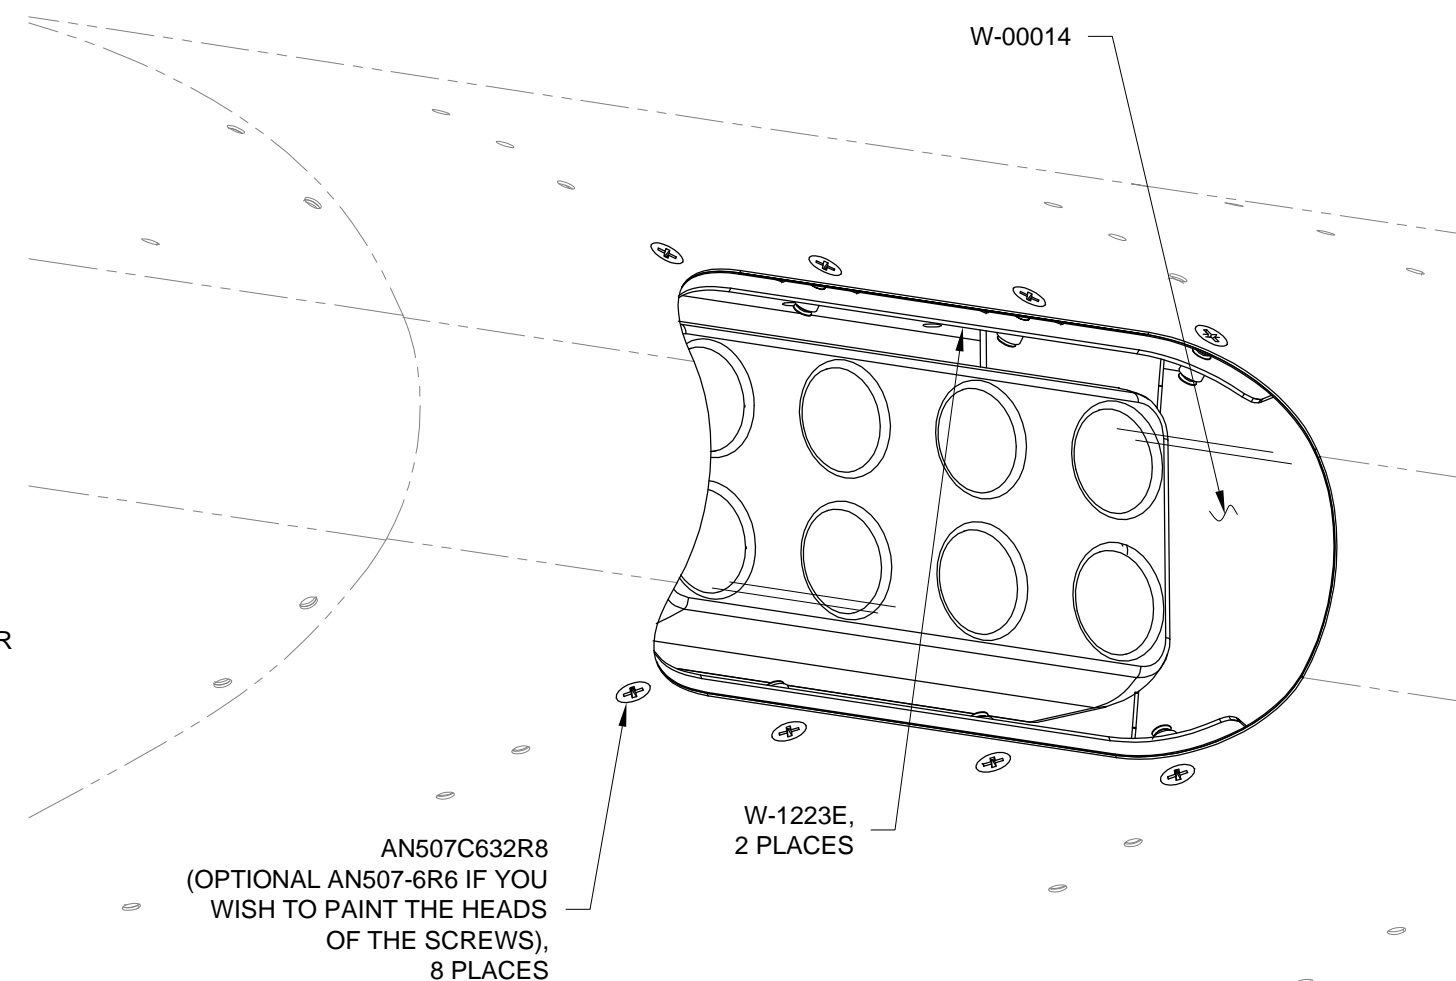

FIGURE 2: INSTALLING THE LENS
Step 8: Use two pieces of double backed tape or equivalent adhesive to hold the W-1223E Lens Backing Strips to the inside face of the W-00014 Lens. See Figure 2.
Step 9: Slip the W-00014 Lens through the landing light cutout in the W-1203-R Outbd Wing Skin and screw it in place as shown in Figure 2.